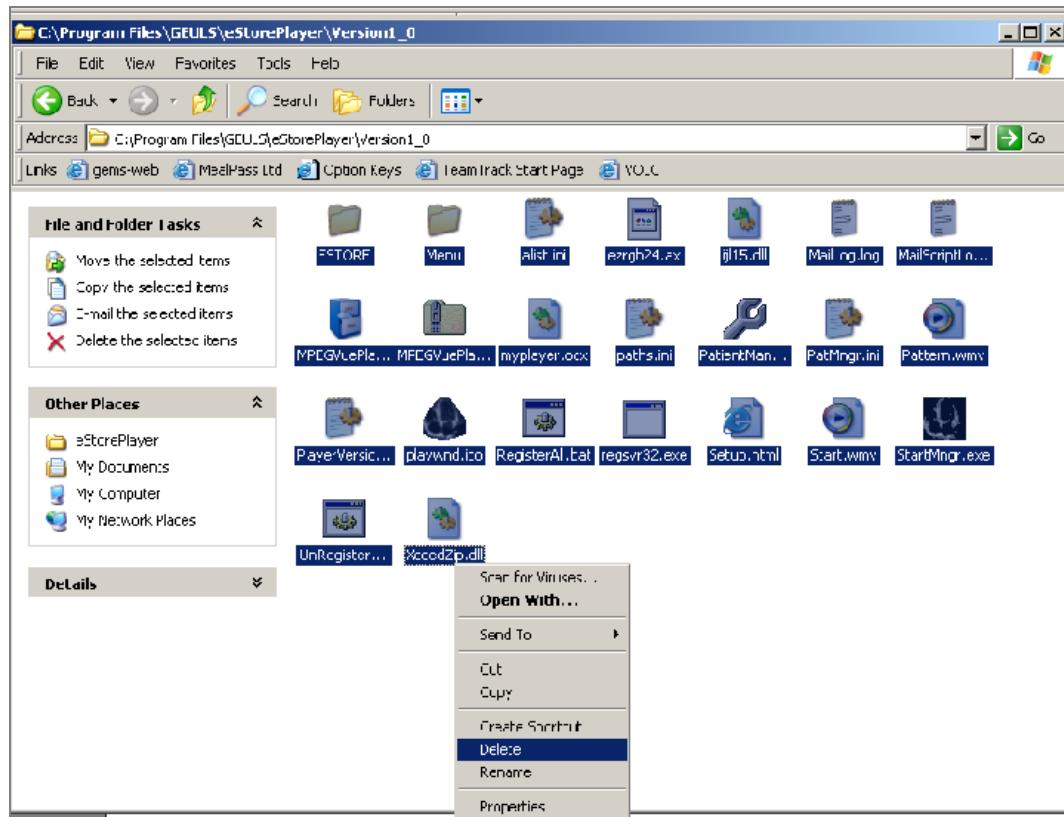

Figure 3-115 Deleting All Files
- 5.) From the C:\Program Files\GEULS\eStorePlayer\Version1_0\ folder, delete all files, as shown in Figure 3-115 on page 3-125 .